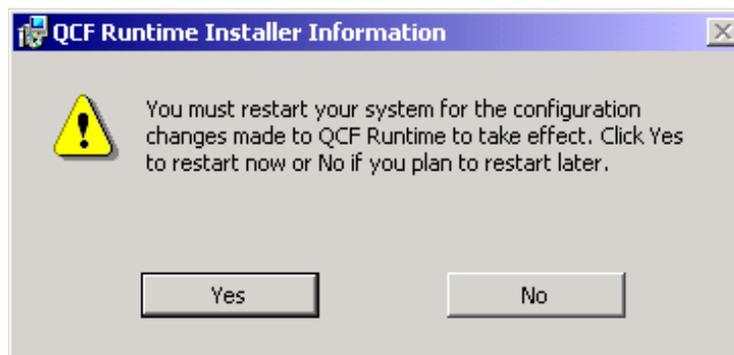

FIGURE 177. Reboot request window
22. The window in Figure 177 appears.